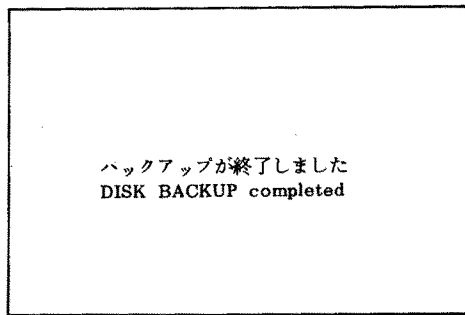

Fig. 9
- (4) After repeating the procedure in (2) and (3) above, several times, BACKUP is completed when the Fig. 9 is shown. After the completion of the BACKUP, set the master disk PROTECT SWITCH to WRITE OK.